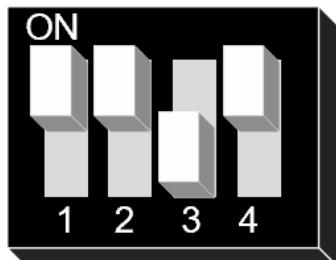

Figure 4. eSD Boot Mode
1. To set the board to SCIF download mode, set “SW\_MODE” according to the switch setting in Figure 4 of Table 9. DIP Switch “SW\_CONFIG“ Settings.